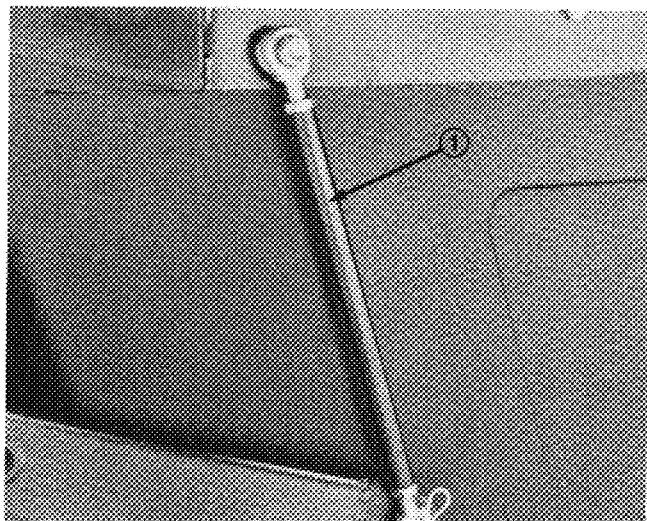

Figure 13
- Secure hopper tie rods to frame with hair pin cotters (Fig. 13).